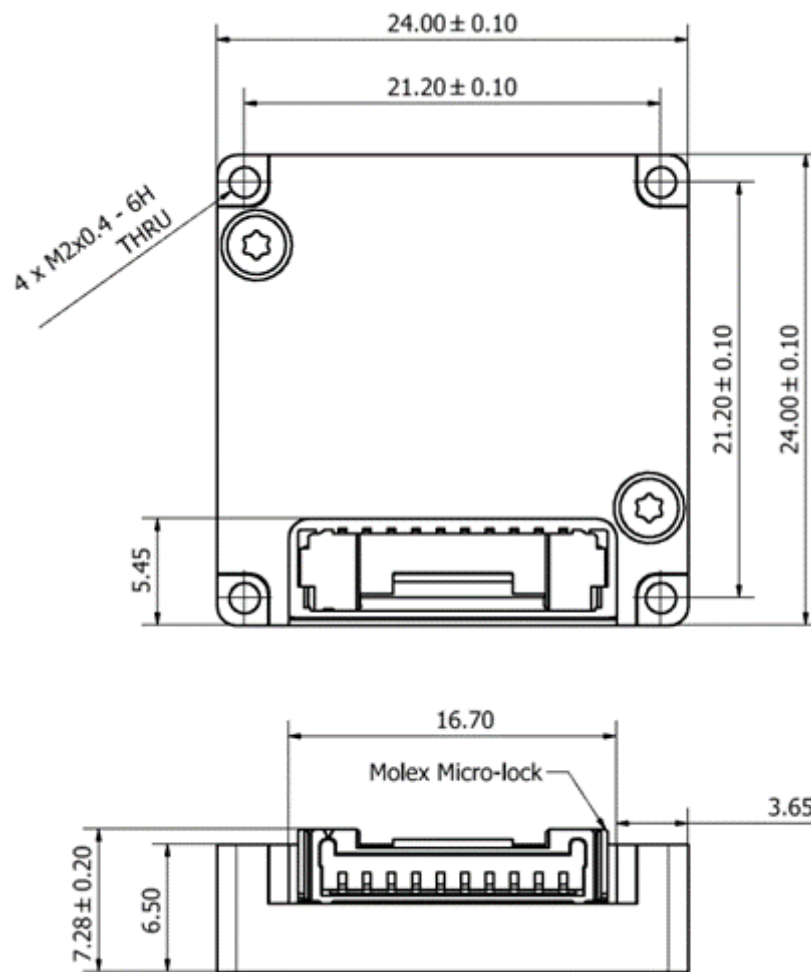

Figure 10: Indicative Dimensions of CubeMag Compact
The CubeMag Compact has four (4) M2x0.4mm threaded mounting holes as shown in Figure 10. Non-ferrous screws should be used for securing this CubeProduct. This redundant magnetometer can be mounted with either the top or bottom face against the mounting surface. Regardless of the mounting orientation utilised, sufficient space should be allowed around the Molex connector to ensure easy and reliable connection.